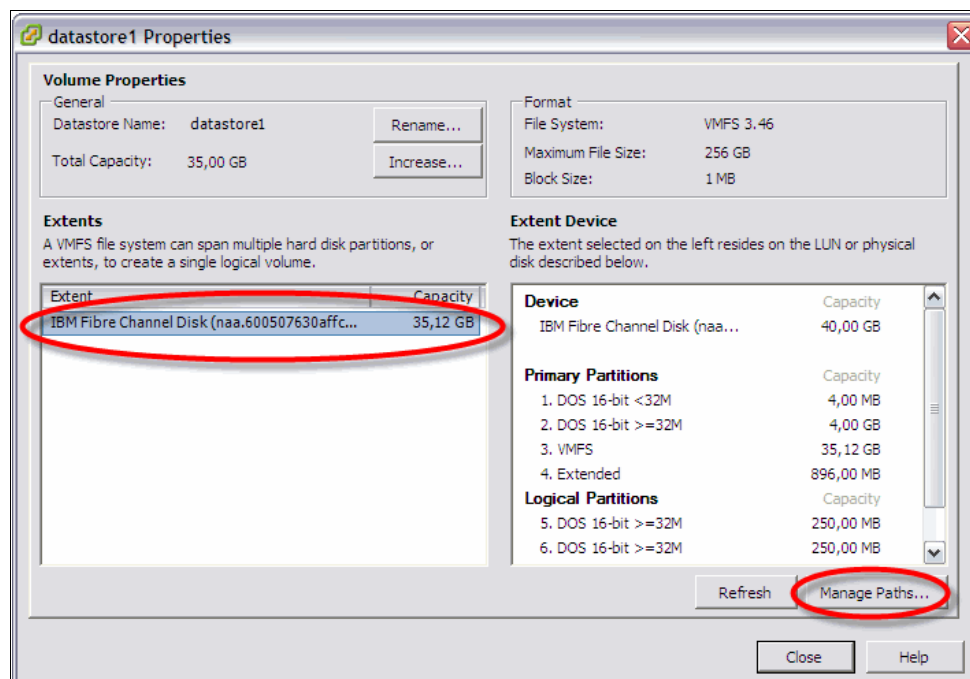

Figure 3-93 Checking multiple paths for SAN Boot LUNs
18. Select your Fibre Channel disk and then click **Manage Paths**, as shown in Figure 3-93.